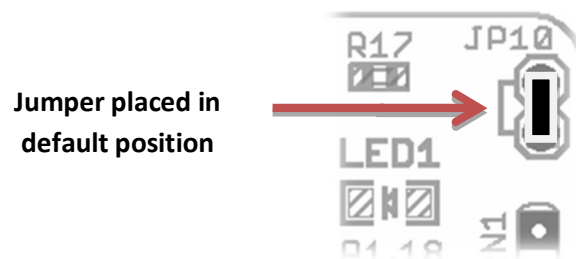

Figure.1
- All jumpers in default position. The default position is marked by a bracketed white line set against the jumper position as shown in **Figure.1**.